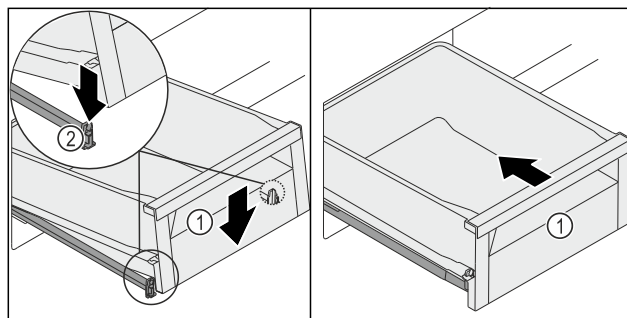

Fig. 127
- ▶ Lower the drawer Fig. 127 (1) at the front so that the drawer slides into the clamp Fig. 127 (2) on the left and right.
- ▶ The drawer Fig. 127 (1) locks in audibly.
- ▶ Push in the drawer Fig. 127 (1).